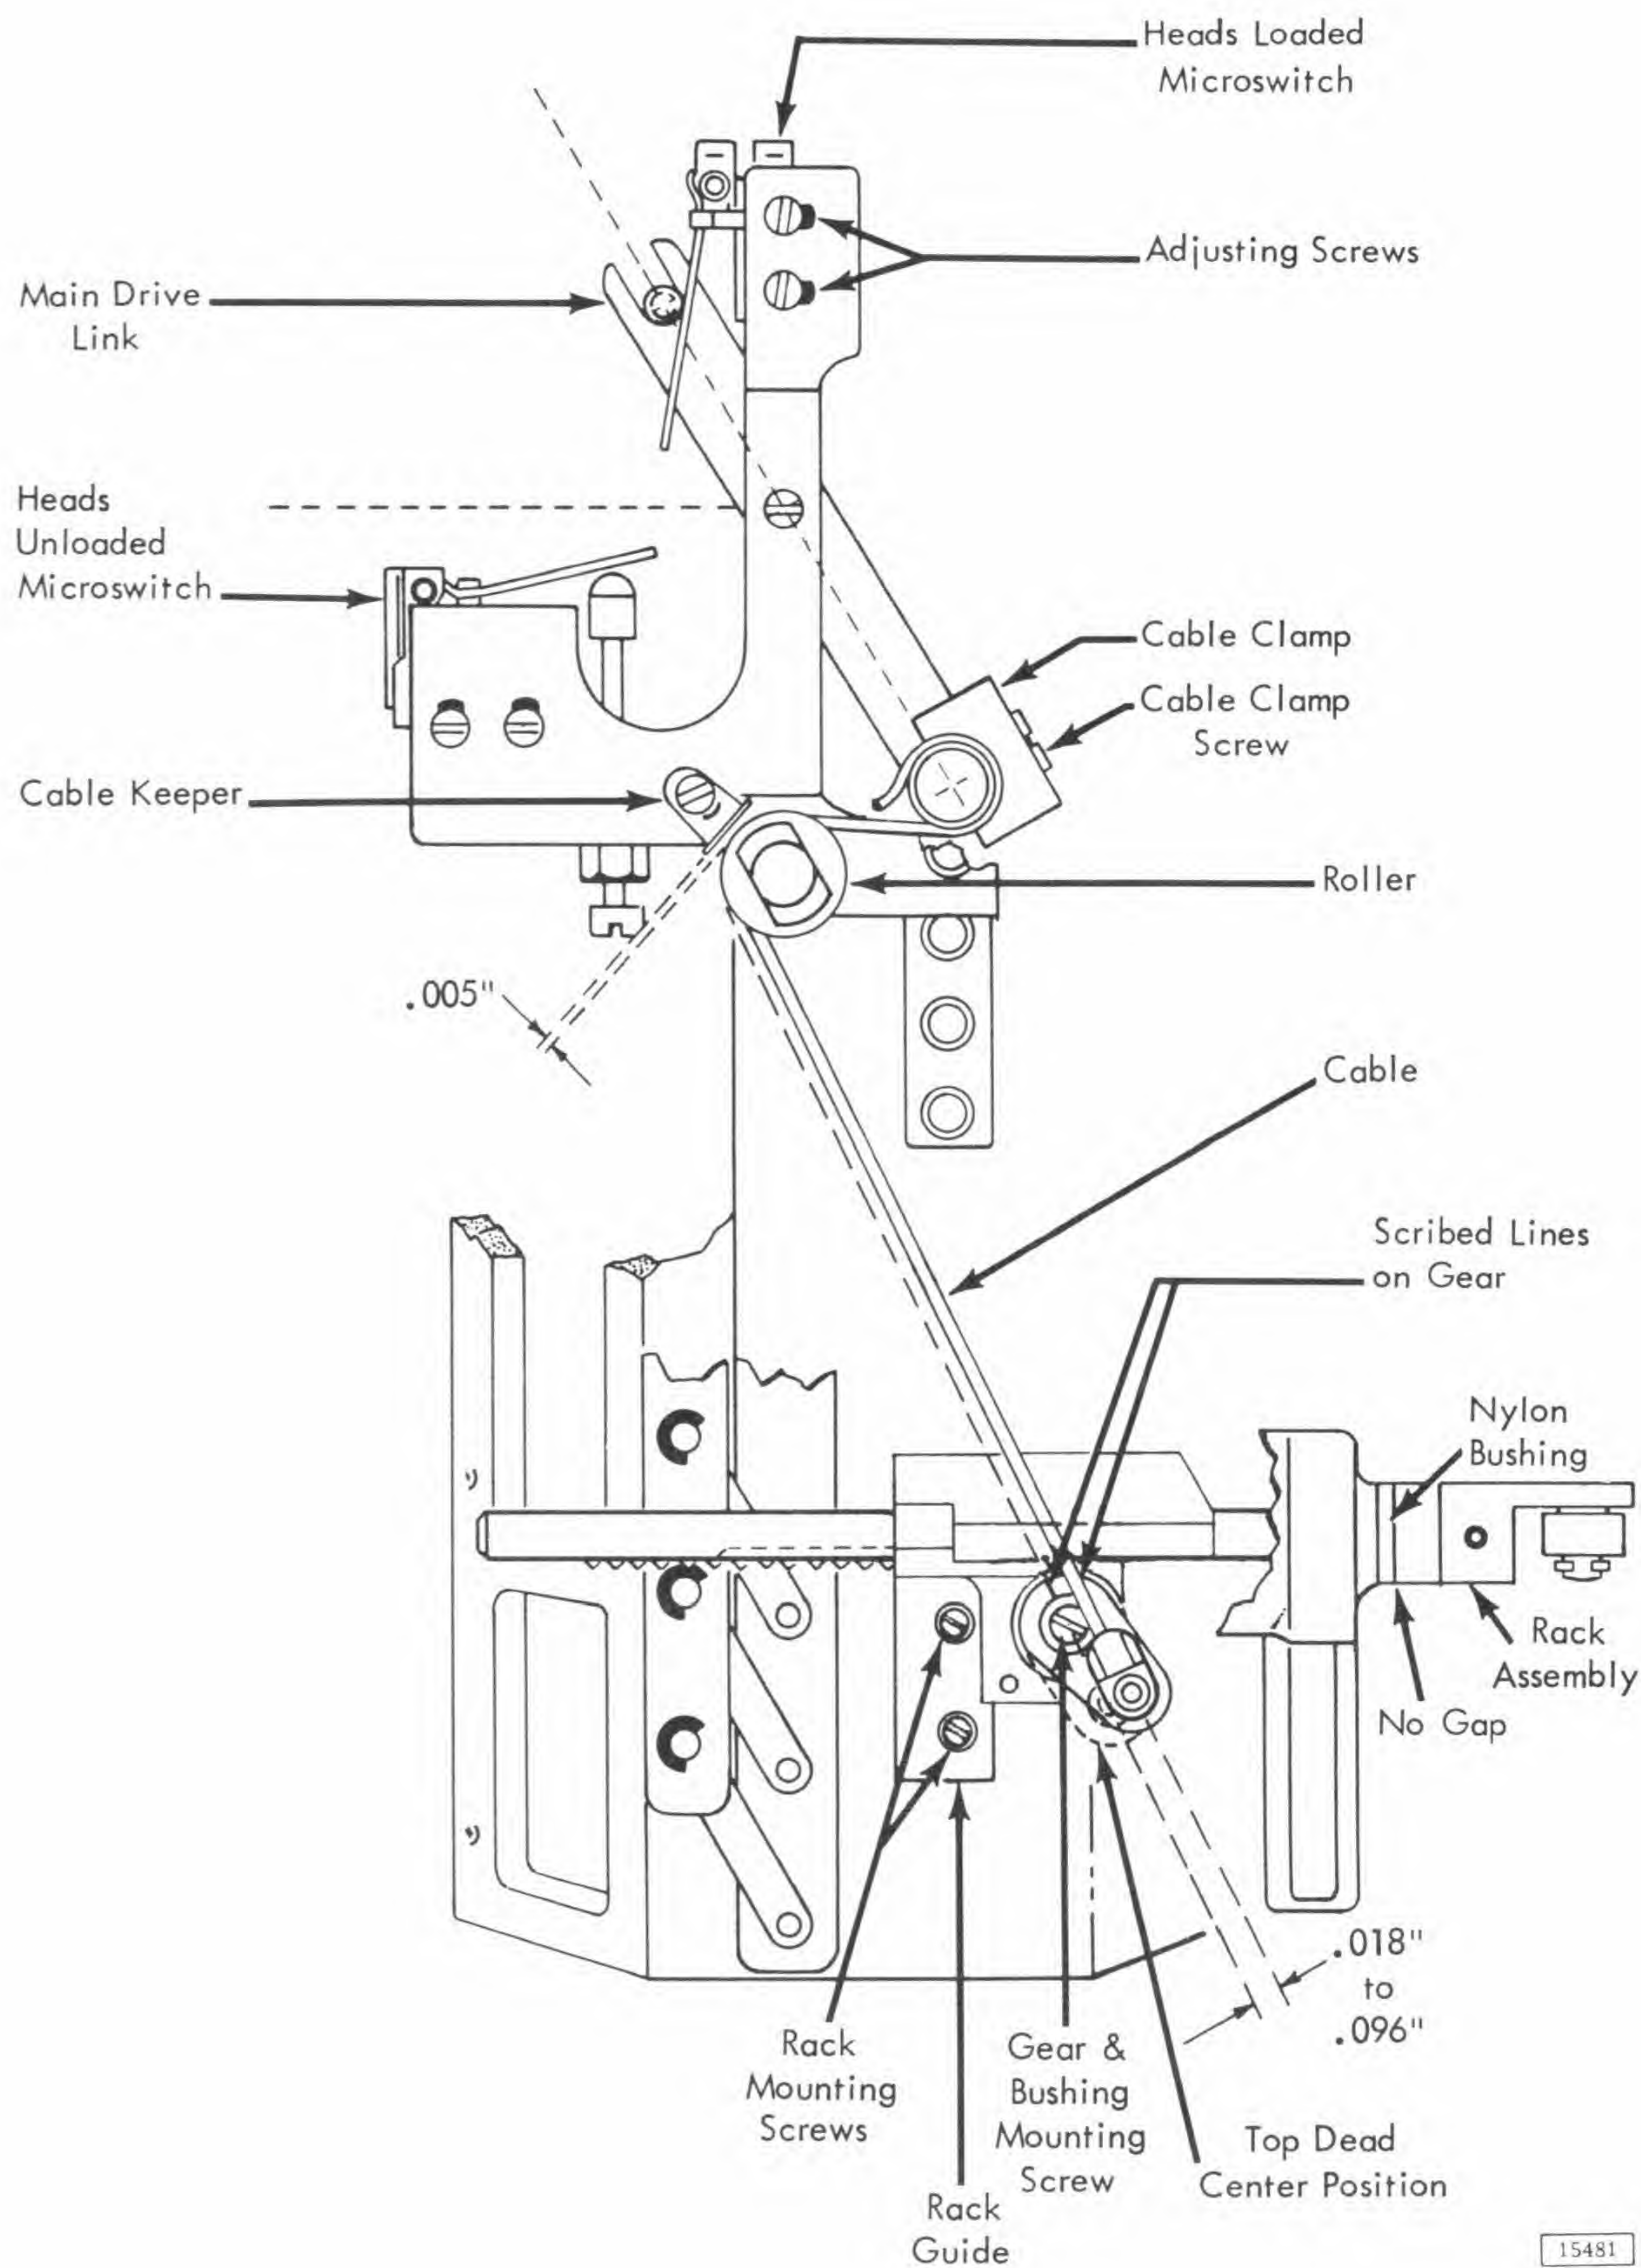

Figure 2-21. Gear and Rock and Cable Adjustment
1. Gear and Rack. Proper over-center relationship of gear and rack exists when there is no gap at rack and cable is within scribed lines on gear surface (Figure 2-21). (Use a 6" scale as a square placed against the gear surface to determine if the cable lies between the scribed lines.) These scribed lines indicate the required .018" to .096" over-center perpendicular distance from pin to a line passing through the gear center and tangent to the outside diameter of roller.
2. Cable (Figures 2-21 and 2-22). Proper cable length can be determined only when gear and rack relationship is in proper adjustment.
3. Air Cylinder Nose (Figures 2-23, and 2-24) Proper air cylinder nose positions can be established only when gear and rack relationship is in proper adjustment. With heads loaded, two conditions must be met in order (Figure 2-21):